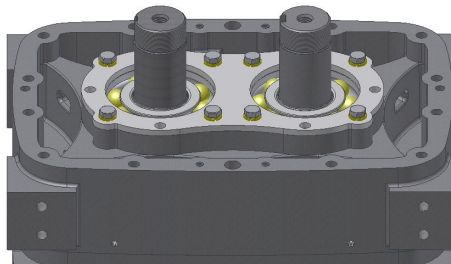

Figure 9-8 – RETAINER PLATE INSTALLATION
32. Mount bearing retainer plate (15) onto gear-end bearing housing with eight bolts (17) and lock washers (16). Reference FIGURE 9-8.